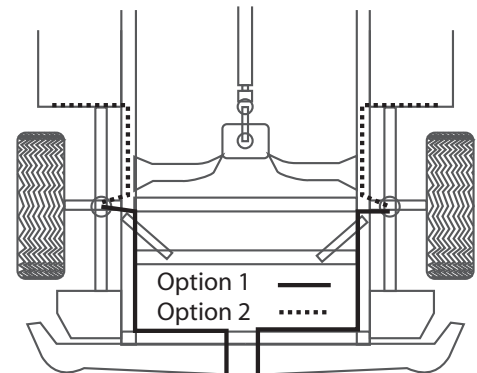

Figure 7
6. Route the air line along the frame to the air fitting on the air spring (Figure 7). Keep at least 6" of clearance between the air line and heat sources, such as the exhaust pipes, muffler, or catalytic converter. Avoid sharp bends and edges. Use the plastic tie straps (BB) to secure the air line to fixed, non-moving points along the chassis. Be sure that the tie straps are tight, but do not pinch the air line. Leave at least 2" of slack to allow for any movement that might pull on the air line.